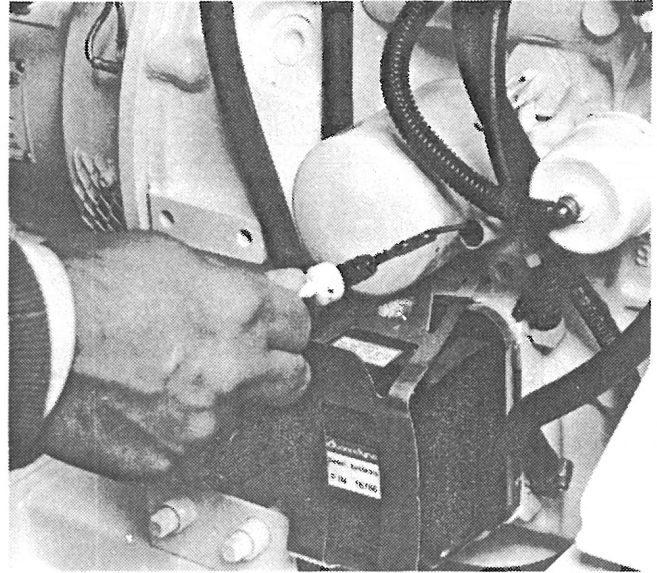

Figure 17 - Checking the oil level, 753
2. Check the oil level in the crankcase (figures 17 - 20, see under "Servicing", point 1). Use the oil dipstick on the side of the engine. The oil level should be in the waffled area on the dipstick and should never be allowed to go down below this area. Always use oil of the same grade and viscosity as is already in the engine.